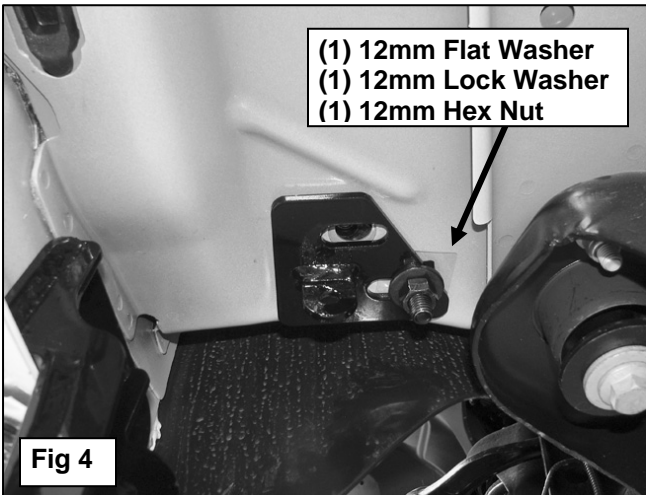
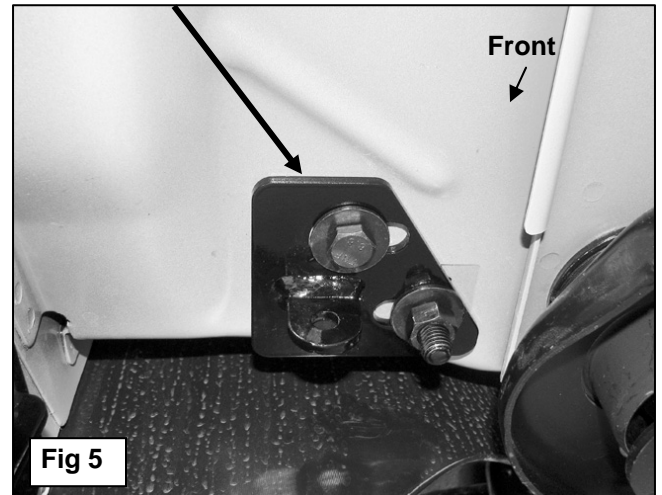

Fig 4
Fig 5
5. Select the driver side Top Bracket. Hold the Top Bracket in place over the Nut and Bolt Plate. Secure the Bracket to the Nut and Bolt Plate with (1) 12mm Flat Washer, (1) 12mm Lock Washer and (1) 12mm Hex Nut, **(Figure 4)**. Rotate the Nut and Bolt Plate to line up the Nut with the remaining hole and thread (1) 10mm x 35mm Hex Bolt, (1) 10mm x 30mm OD Large Flat Washer and (1) 10mm Lock Washer into the Nut, **(Figure 5)**. Do not tighten hardware.